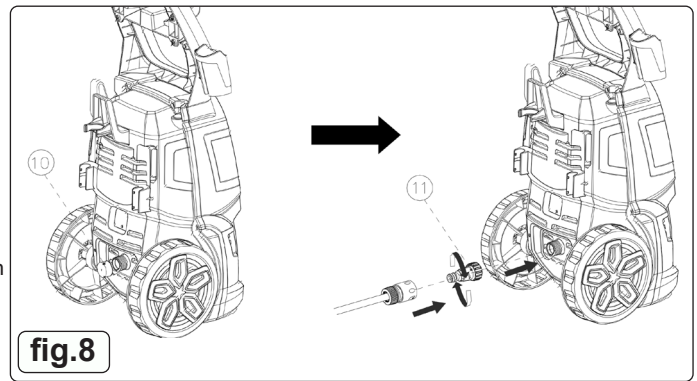

fig.8
5.7. ATTACH THE GARDEN HOSE FIG.8